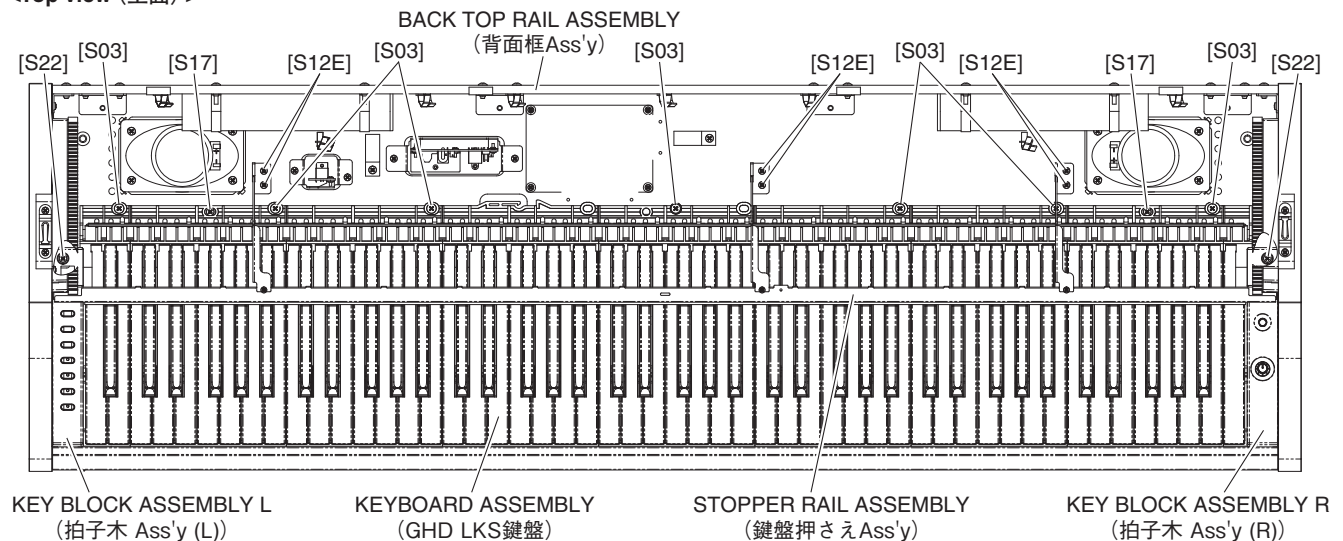

Fig. 6 (図6)
- 8-5 Remove the six (6) screws marked [S12E]. The stopper rail assembly can then be removed. (Fig. 6)
- 9-5 Remove the screw marked [S22]. (Fig. 6)
- 9-6 Slide the key block assembly L backward and lift it out. (Fig. 6)
- 8-5 [S12E] のネジ 6 本を外して、鍵盤押さえ Ass'y を外します。(図 6)
- 9-5 [S22] のネジ 1 本を外します。(図 6)
- 9-6 拍子木 Ass'y (L) を後方へスライドさせて外します。(図 6)
- 10-6 Remove the seven (7) screws marked [S03] and the two (2) screws marked [S17]. The keyboard assembly can then be removed. (Fig. 6)
- 10-6 [S03] のネジ7本と [S17] のネジ2本を外して、GHD LKS 鍵盤を外します。(図6)
- 11-5 拍子木 Ass'y (L) を外します。(9項参照)